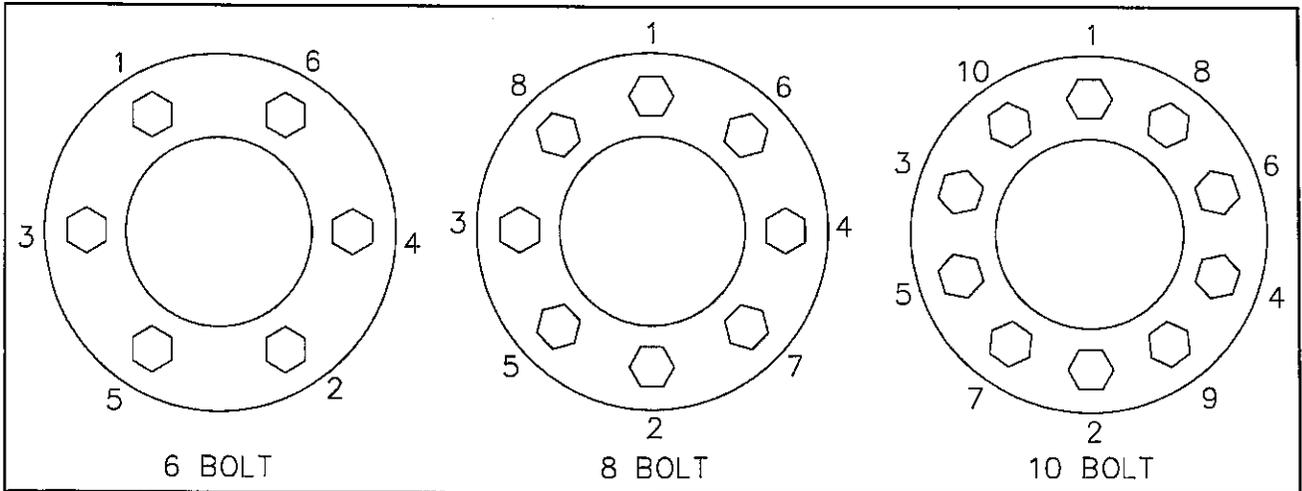

Figure 4-18 Stud Tightening Sequence
c. For ball seat mounted wheels only, install the inner capnuts on the studs and tighten to fifty foot-pounds using the sequence illustrated in Figure 4-18. Make certain that the left-handed threads are installed on the driver side of the vehicle and the right-handed threads are installed on the curbside of the vehicle.
d. Tighten the inner capnuts to full torque of 450 to 500 foot-pounds using the sequence shown in Figure 4-18.
g. Install the outer capnuts (ball seat) or flange nut (pilot mount) and tighten to 50 foot-pounds using the sequence in Figure 4-18. Then tighten to full torque of 450 to 500 foot-pounds for ball seat and 500 to 550 foot-pounds for pilot mount, using the same sequence.
e. After they are properly seated, tighten the rim nuts one-quarter turn at a time, in the order illustrated in Figure 4-18 to a torque of 200 to 250 foot-pounds.
Improper tightening sequence: follow proper tightening sequence. (See Figure 4-18.)